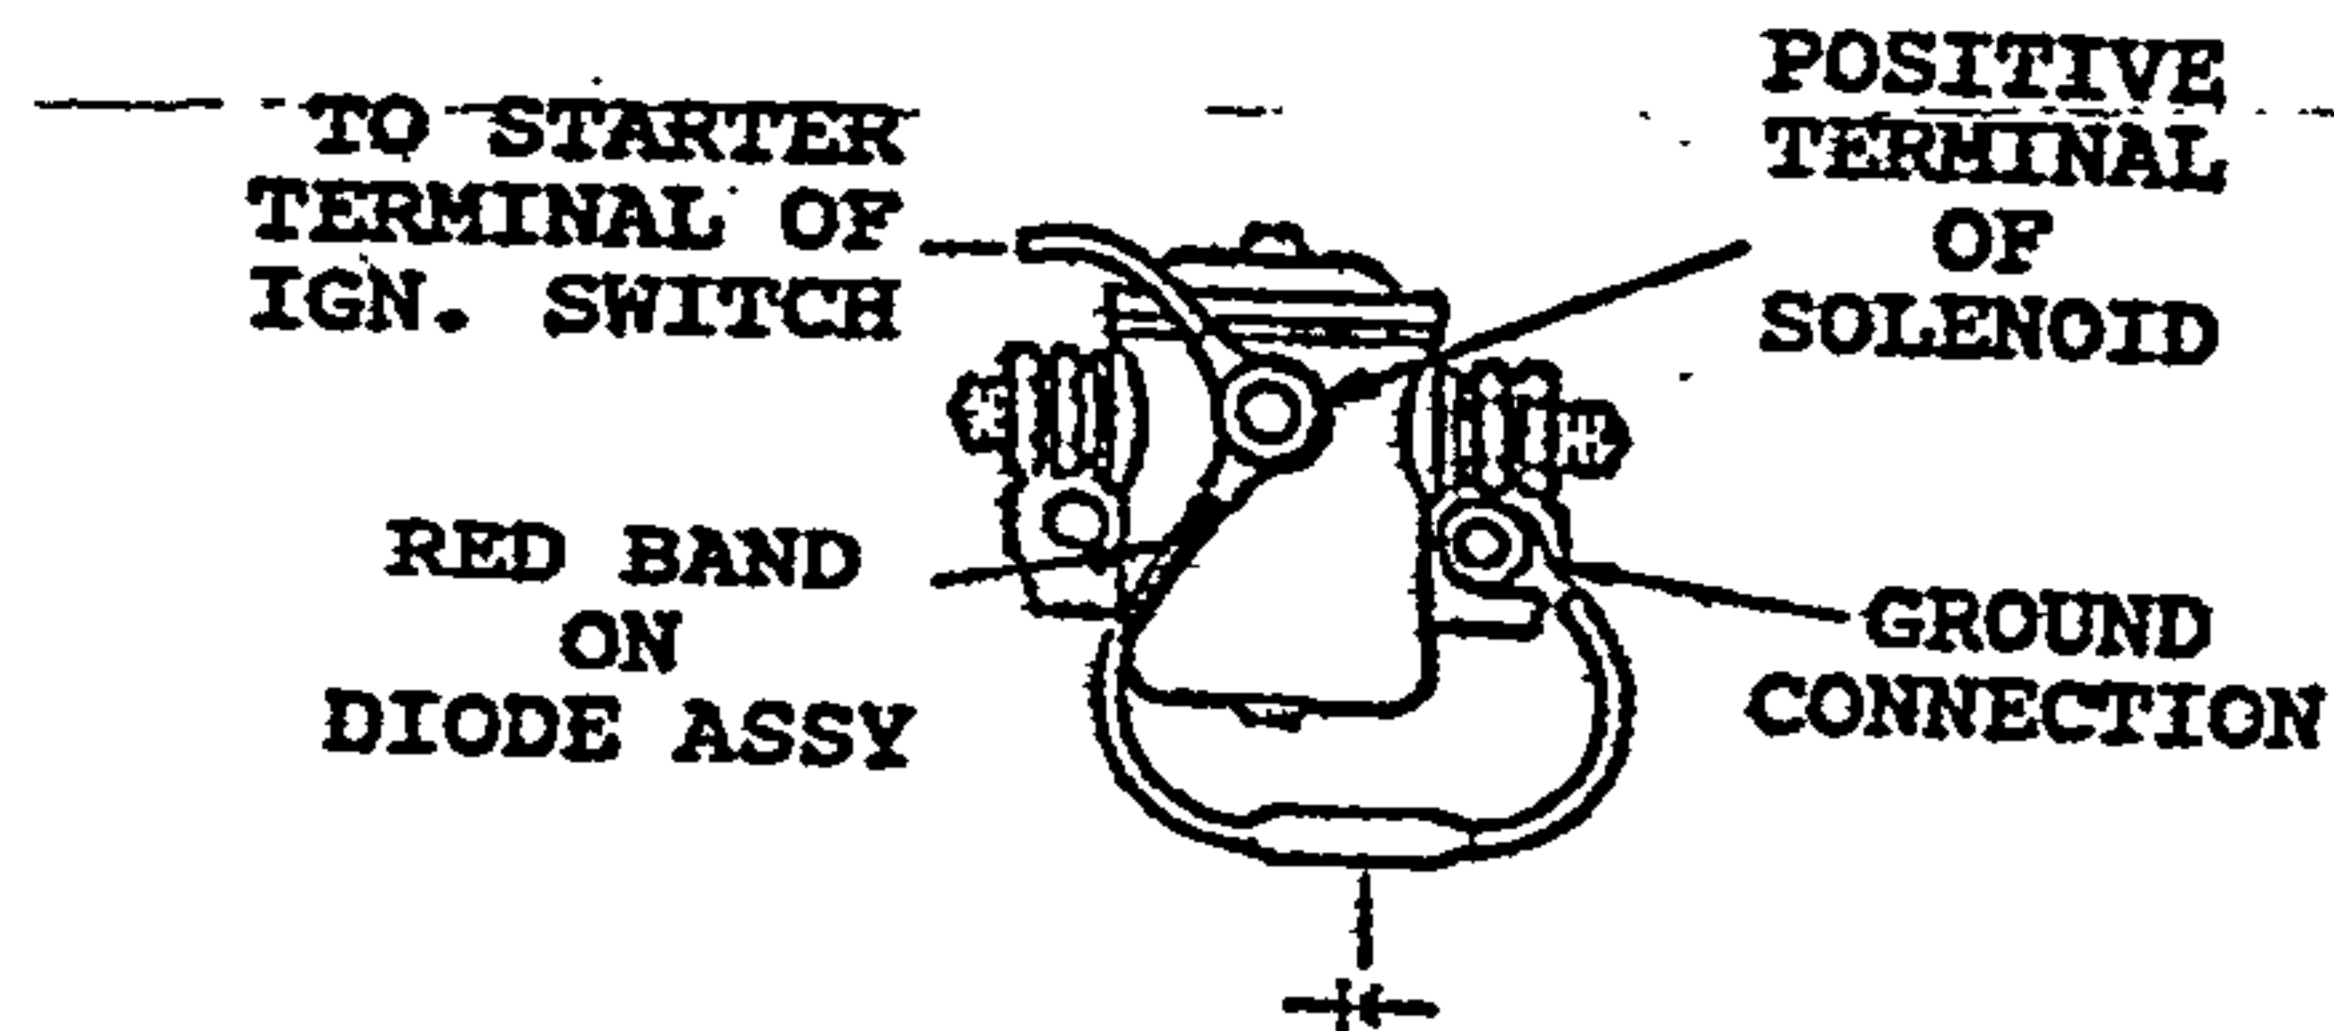

Figure 1. Installation of Diode Assy on Starter Relay with One Solenoid Terminal
ACS Service Bulletin SB92-01 requires that a surge suppressor diode be connected across the solenoid coil of a starter relay when an A-510-2 ignition switch is installed. The instructions in Sections 2 and 3 describe the installation of the diode assembly, P/N 16050-2 in one-terminal and two-terminal solenoid coils of starter relays such as those used in many Cessna type aircraft. Other aircraft may have starter relays which differ in external appearance from those illustrated in Figures 1 and 2, but the general method of installation remains basically the same, i.e., the small ring terminal of the diode assembly (with a red shrink tubing band near the small terminal) is to be attached to the positive (starter switch) terminal of the solenoid coil of the starter relay and the large ring terminal (with black shrink tubing covering the diode lead) is to be attached to ground. "Ground" may be a ground terminal on a two-terminal solenoid coil or the case of the relay for a single-terminal coil.
- a. Refer to Figure 1. Remove one mounting bolt and hardware from the starter relay mounting base.